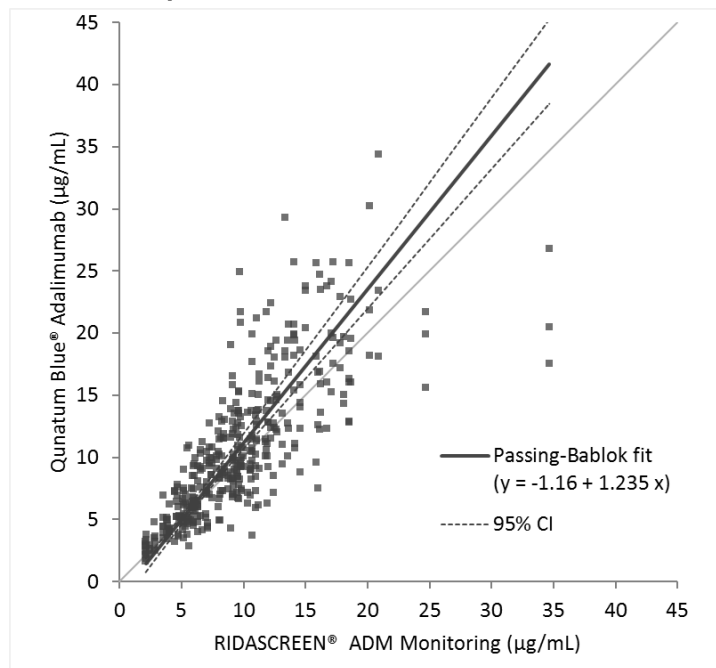

Figure 2
The method comparison study was performed according to the CLSI guideline EP09-A3. One hundred and thirty (130) samples were measured in triplicate with the Quantum Blue® Adalimumab test, resulting in 390 values, and with a commercially available adalimumab ELISA test. Measurements were performed over four days using two Quantum Blue® Adalimumab test cassette lots. The results are summarized in figure 2.